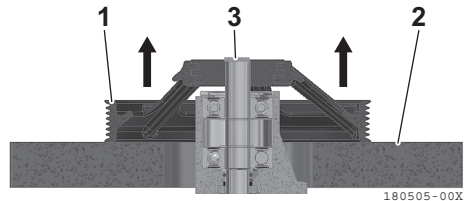

Figure 17
1. Place the pulley (**Figure 17, (1)**) on a support (**Figure 17, (2)**) that supports the entire circumference of the pulley.
2. Remove the pulley while pressing on the end of the shaft (**Figure 17, (3)**).